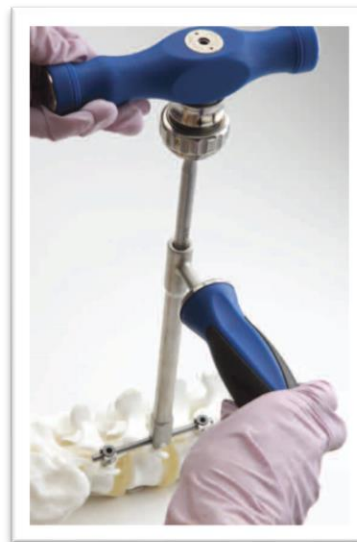

Figure 18
- d. Rotate the Torque Handle clockwise until an audible click is heard at 106 in-lbs. (Figure 18).